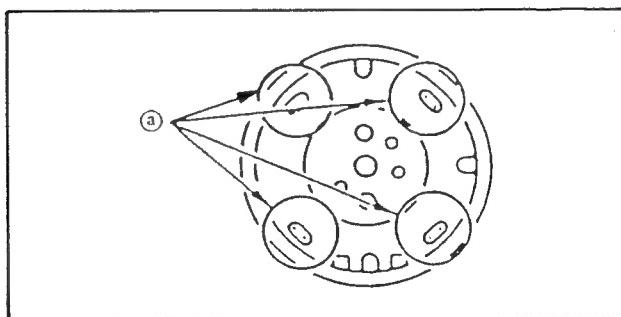

Fig. III-60
* Parts ① in the Fig.III-60 are plug-in type